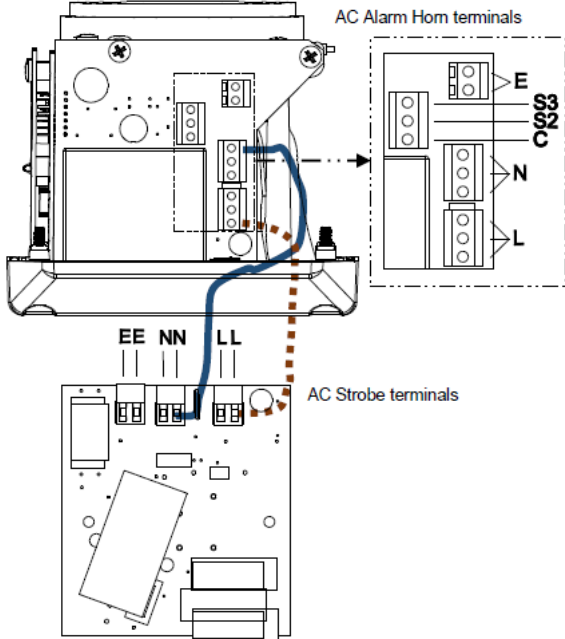

Fig. 5 AC Terminals
the field wiring to the appropriate alarm horn terminals as shown in section 9 and fig 8 (DC) or section 8 fig 5 (AC) of this manual. The power supply terminals are duplicated so that horns may be connected in parallel and for DC units only an end of line monitoring resistor may be fitted. If the second M20x1.5 entry is not used a suitably rated, certified stopping plug must always be fitted.
Stage one (S1) operation: Simply connect the supply voltage to the L and N supply terminals, (see fig. 5). The Strobe is powered via factory installed wires connected to the sounder. The wires connecting the alarm horn and strobe can be removed if the user wishes to power the strobe separately.
The unit has both internal & external earth terminals, (see fig 3). Internal earthing connections should be made to the internal earth terminal on the PCBA, (please see fig 5 for AC, fig 8 for DC). The earth conductor should be at least equal in size and rating to the incoming power conductors. The internal earth bonding wire connects the PCBA earth terminal to the internal earth terminal in the enclosure back box.